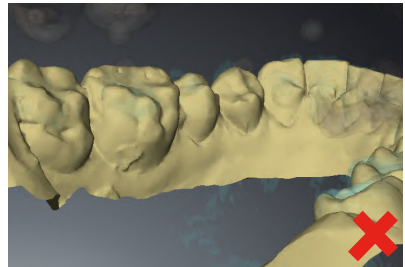

Figure 7: Misalignment in the surface data
- Misalignment (please see figure 7)